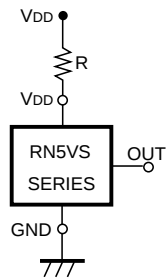

FIG.9
1. When RN5VS××C (CMOS Output) is used in FIG. 9, this IC may oscillate by the through-type current at the detection when impedance is connected between Power Source VDD and RN5VS VDD Pin. When RN5VS××A (Nch Open Drain Output) is used in FIG. 9, and R becomes excessively large, Detector Threshold may be varied because of the voltage drop of the supply current in the IC itself.